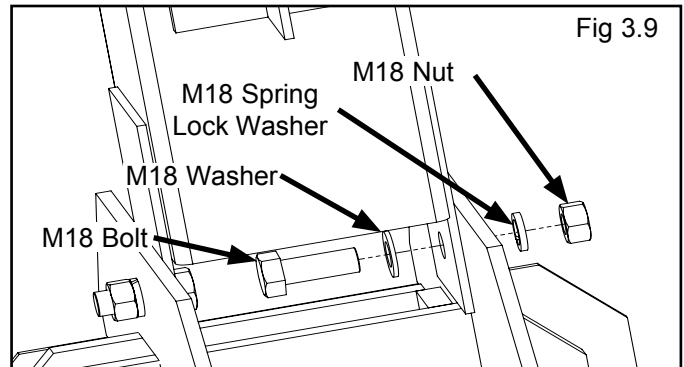

Fig 3.9
13. Install the supplied M18 bolts, washers, spring lock washers, and nuts to securely fasten the Long Crosstube to the Rear Closeout Post and Front Closeout Post. (See Fig. 3.9)